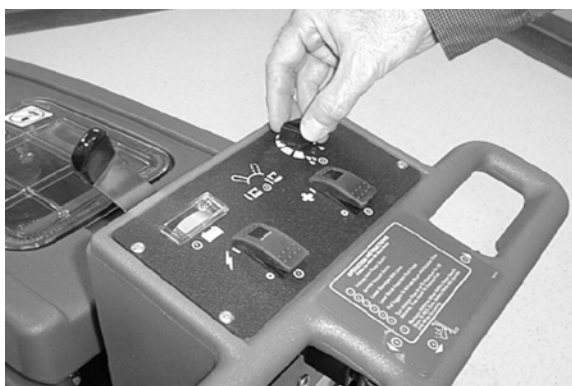

FIG. 12
- Turn solution flow control knob to desired flow rate. Solution will immediately begin to flow once triggers are activated (Figure 12).